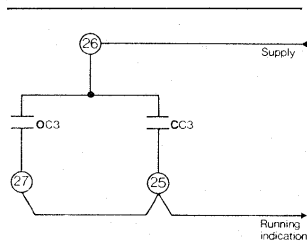

Figure 5
1. Running indication (contactor response Figure 5). Because auxiliary contacts OC3 and CC3 are available at the terminals, they can be connected in parallel to give a simple running indication. More usefully, however, they can be used in conjunction with auxiliary limit switches as indicated below.